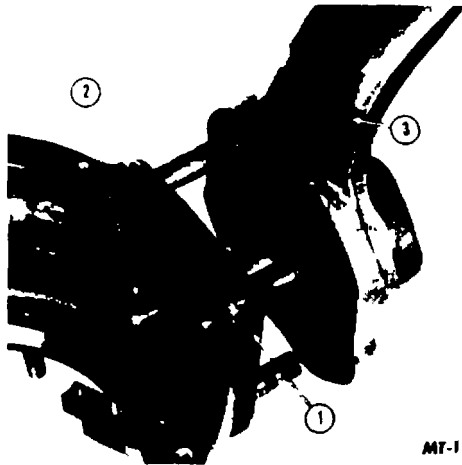

Fig. 9. Steering Arm Removal
10. With tapered dowels removed, pull steering arm off of mounting studs and upper trunnion pin (Fig. 9).